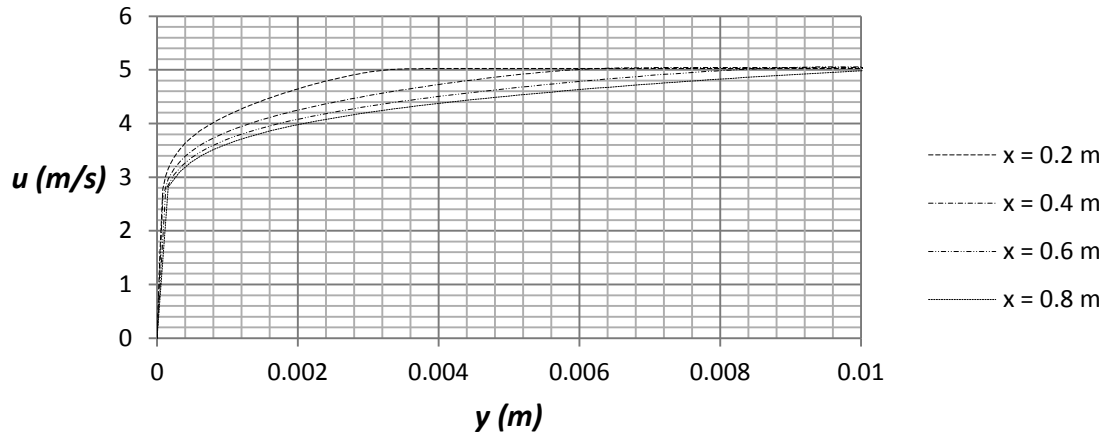

Figure 2.30a) Flow Simulation comparison between turbulent boundary layers at $Re_x = 10^6 - 4.04 \cdot 10^6$
32. Place the file “**graph 2.30a**” on the desktop. Repeat step 24 and choose the sketch **x = 0.2, 0.4, 0.6, 0.8 m** and check the box for **Velocity (X)**. Rename the xy-plot to **Turbulent Velocity Boundary Layer**. An Excel file will open with a graph of the streamwise velocity component versus the wall normal coordinate; see figure 2.30a). We see that the boundary layer thickness is much higher than the corresponding laminar flow case. This is related to higher Reynolds number at the same streamwise positions as in the laminar case. The higher Reynolds numbers are due to the selection of water as the fluid instead of air that has a much higher value of kinematic viscosity than water.
As an example, the turbulent boundary layer thickness from figure 2.30a) is 3.55 mm at $x = 0.2$ m which can be compared with a value of 4.44 mm from equation (4); see table 2.5.
- 2.6 Determine the displacement thickness, momentum thickness and shape factor for the turbulent boundary layers in figure 2.30a), and determine the percent differences as compared with empirical data.